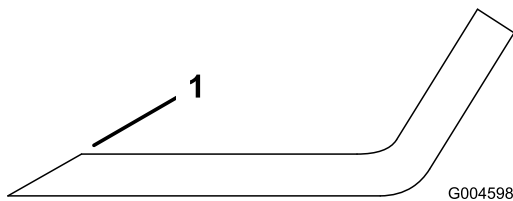

Figure 37
1. Use a file to sharpen the cutting edge at both ends of the blade (Figure 37). Maintain the original angle. The blade retains its balance if you remove the same amount of material from both cutting edges.